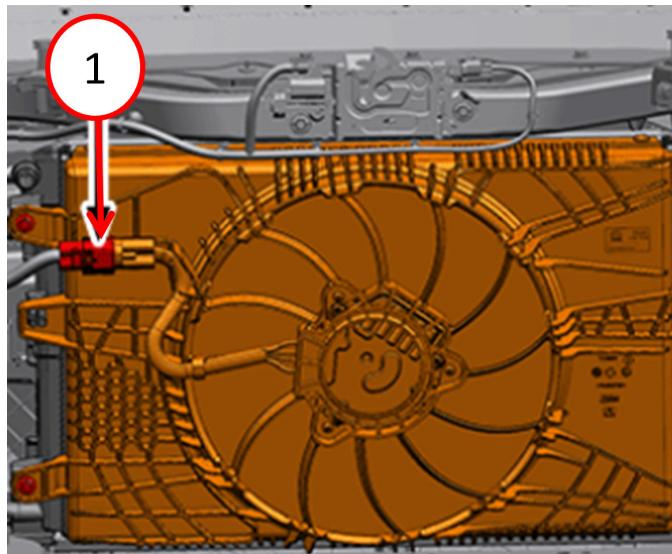

Fig. 1
4. Disconnect the cooling fan wire harness connector Fig. 1**.
21. **Connect the cooling fan wire harness connector Fig. 1.